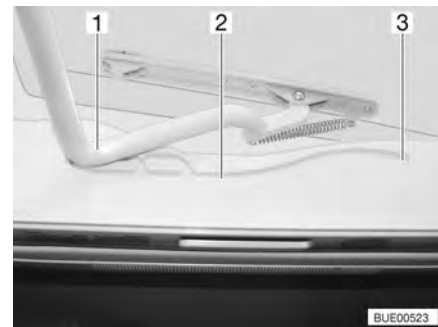

Fig. 28 Guide (hinged skylight)
- Pull the bar (Fig. 28,1) in the guides (Fig. 28,2) to the rearmost position (Fig. 28,3).
- Use both hands to push the bar (Fig. 28,1) slightly upwards.
- Pull the bar in the guides (Fig. 28,2) to the desired position.